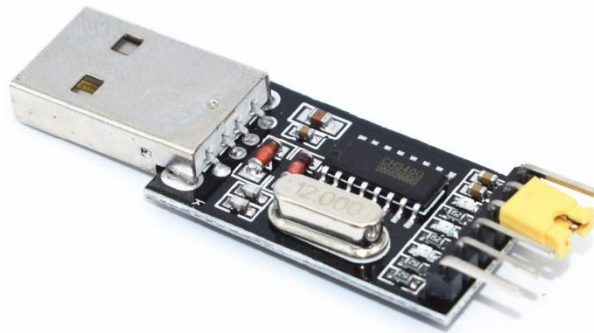

Figure 2: CH340G USB to TTL converter.
3. To use the CH340G UART module (Figure 2),